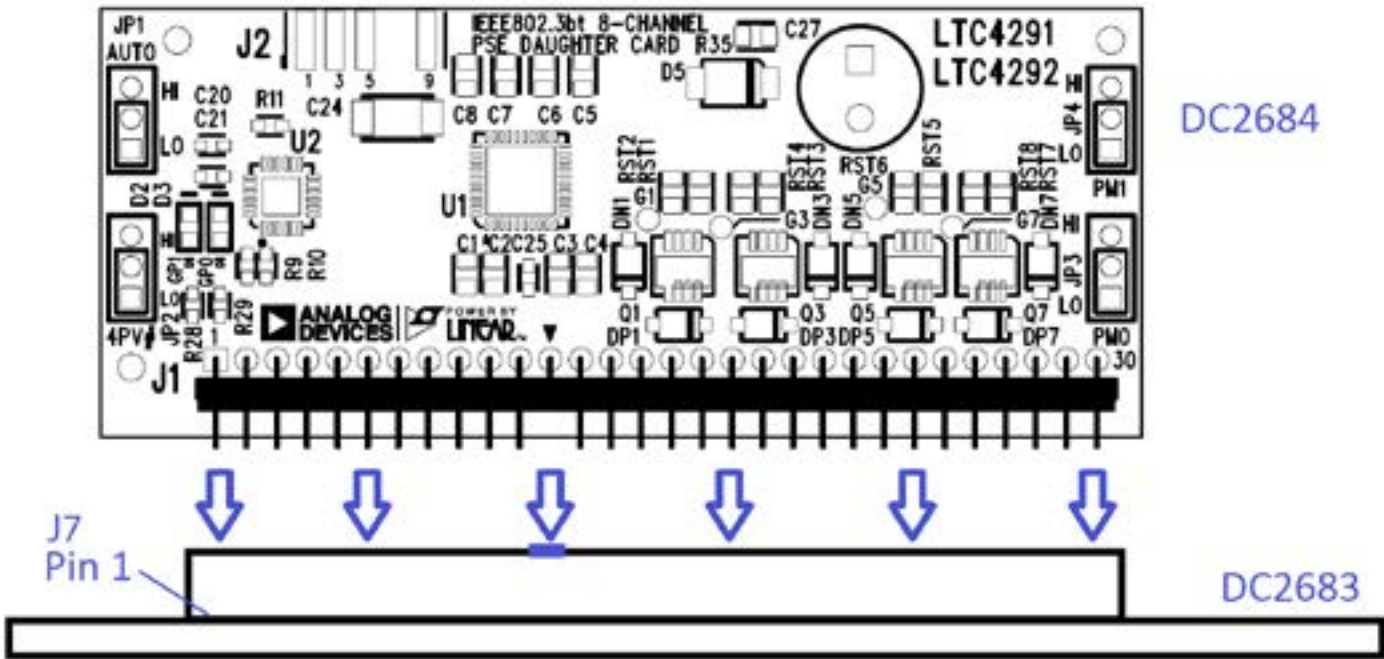

Figure 2. Inserting the DC268A Daughter Card Into J7 of the DC2683A Motherboard
3. Align pin 1 of the 30-pin male connector on the DC2684A daughter card with pin 1 of the 30-pin female connector on the DC2683A motherboard as shown in Figure 2. Pin 12 is polarized to assist with the alignment. Carefully push the daughter card straight down until the male and female 30-pin connectors are flush with each other.